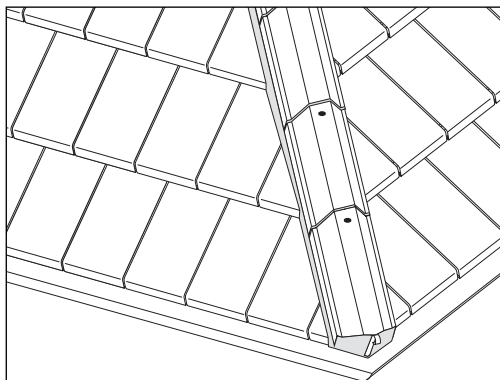

Fig 64 – Typical bedded hip
- 3 Fix a hip iron at the base of the hip rafter and shape the first hip tile at the front to align with the tiling at the eaves. Mitre the junction of the hip and ridge, using a concealed lead saddle in exposed locations (Fig 64).